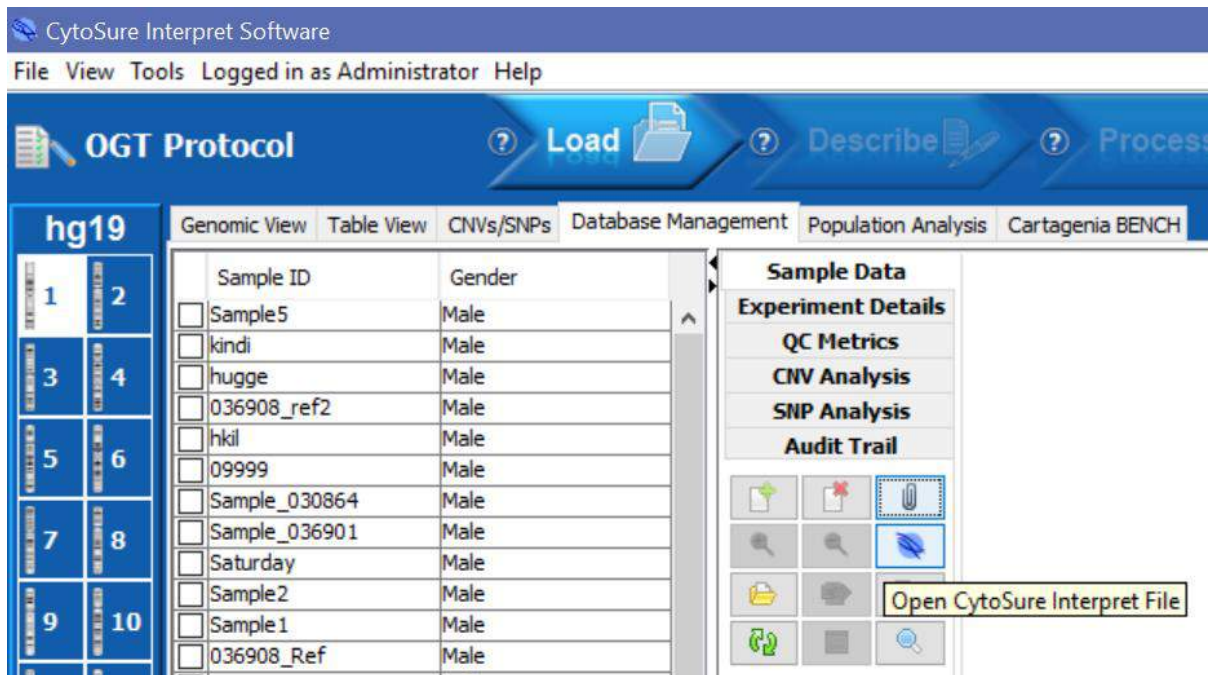

Figure 12: Opening a .cgh file using the Database Management tab.
3. Alternatively, open a .cgh file using the **Database Management** tab. First, open the tab and select the relevant sample from the list. In the button grid, locate and click the **CytoSure Interpret Software** icon (which displays **Open CytoSure Interpret File** when hovered over). These actions can be seen in Figure 12.